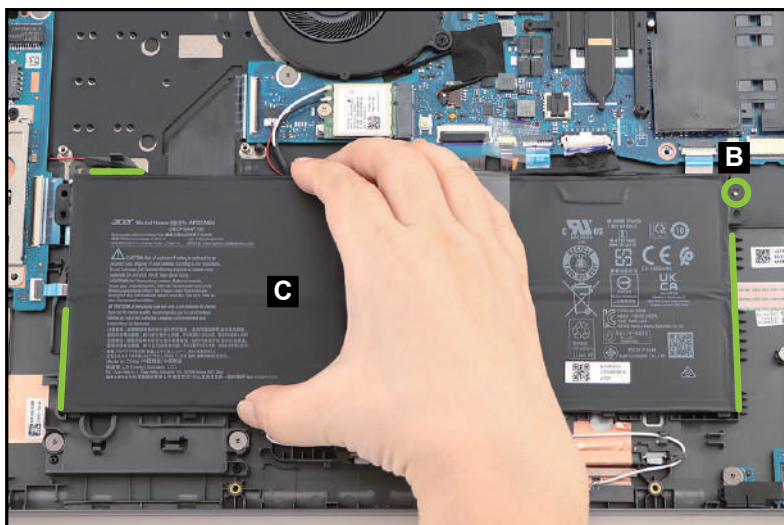

Figure 3-164. Replacing the Battery Pack
2. By aligning with the guide pin (B) and the compartment studs (highlighted by green lines), place the battery pack (C) to its compartment on the top assembly (Figure 3-164).